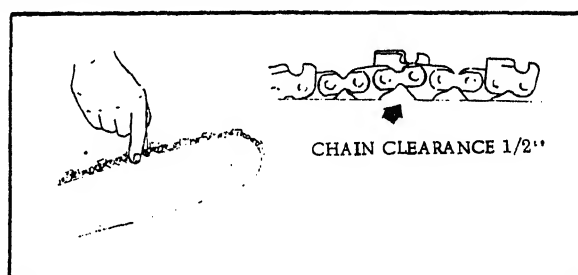

FIGURE 3 - PROPER CHAIN TENSION.
Install spacers (Ref. No. 71); sprocket guard plate (Ref. No. 72) and nuts (Ref. No. 74). Tighten nuts lightly, then adjust tension by tightening screw (Ref. No. 70) until chain is as shown on drawing illustrating correct tension (Fig. 3, page 4). Then tighten nuts (Ref. No. 74) securely.
DO NOT RUN YOUR SAW WITH A TIGHT CHAIN --- the result will be failure of the guide bar within a few minutes. (See illustration, Fig. 3, page 4 on correct chain tension.)
- 3) Be sure to tighten chain to proper tension (Figure 3, this page). The operator should be able to lift bottom of the chain from center of guide bar approximately 1/2". Adjust tension accordingly to get proper clearance.
- 5) **NOTE-** A new chain will stretch during first few hours of operation. Check chain clearance (Figure 3, this page) frequently during this period.